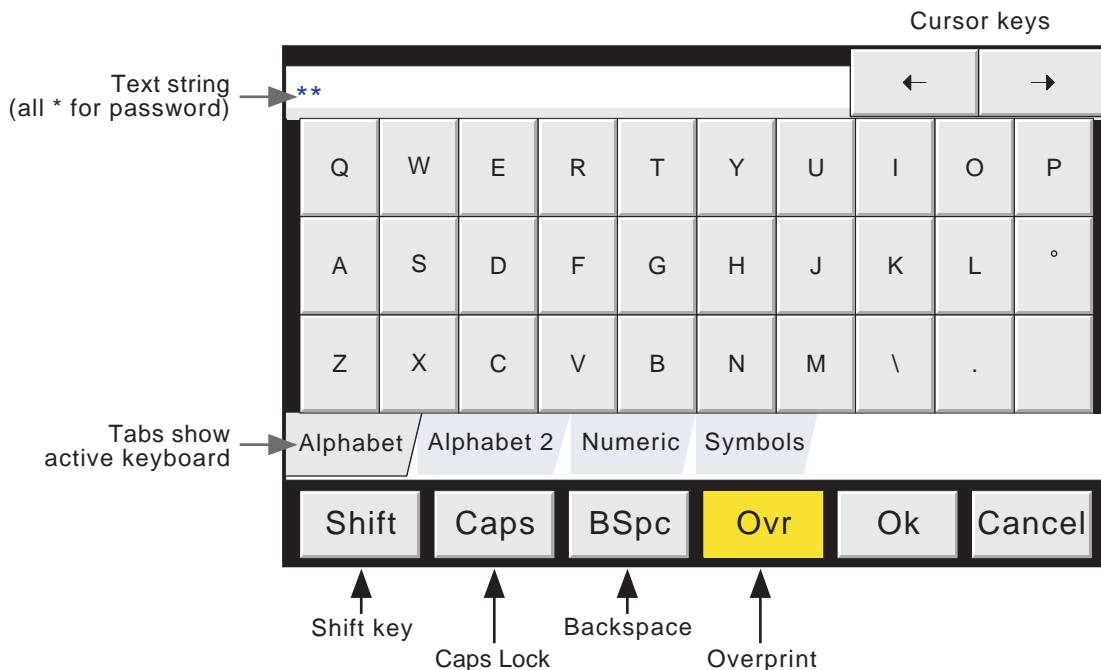

Figure 3.3.1b Alphabet 1 keyboard
- 3 Touch the blank Password area to call the keyboard display (see figure 3.3.1b).
- ①
The keyboard which appears when the password area is touched is the same as that which appears when any non-numeric text string entry is required (e.g. channel descriptor). Figures 3.3.1b and 3.3.1c below are an attempt, within the limitations of the illustrating process, to depict the available keyboards and thus the available character set. Actual entry of the text string is by touching the relevant key. For items which require only a numeric entry (e.g. channel range) the numeric keyboard appears.